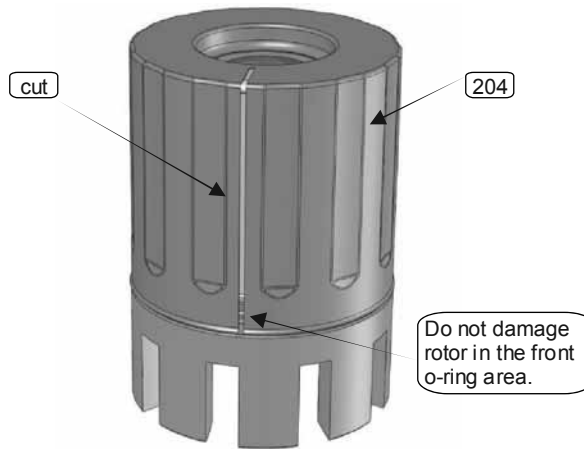

Figure 6.24 – method b
- a. Support the rotor assembly (200) on the front edge of the sleeve (204), with the teeth facing down. Leave at least 1 inch (25 mm) of clearance beneath the teeth. Then press the rotor down, separating it from the sleeve.
- b. Carefully cut the sleeve as shown in Figure 6.24. Be careful to avoid damaging the rotor in the area around the front o-ring. The sleeve will easily pull off the rotor after this cut is in place.